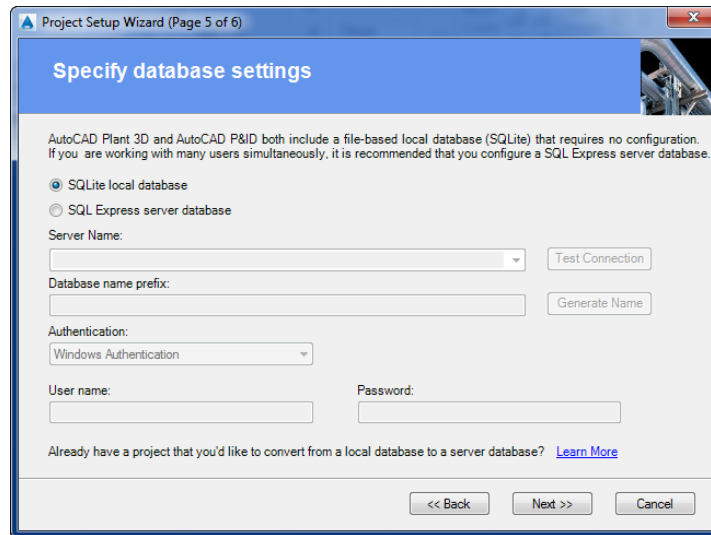

Figure 2-6 The Specify database settings page
7. Accept the default settings in this page and choose the **Next** button; the **Specify database settings** page will be displayed, as shown in Figure 2-6.